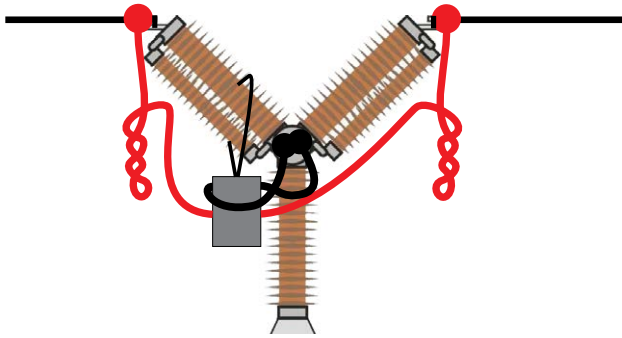

Figure 3.2.2 By twisting the current cables you can reduce disturbances by minimizing the magnetic window created by the cable loops and the interrupter.
- 4] By twisting the cables as shown in the figure 3.2.2 you can reduce disturbances by minimizing the magnetic window created by the cable loops and the interrupter.